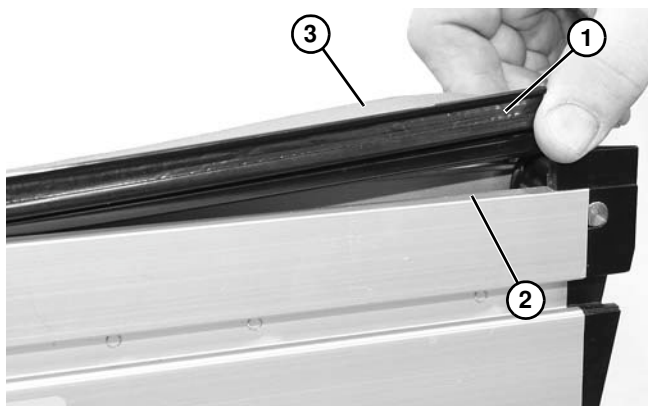

Figure 22
3. Remove the bedstrip (Figure 22, item 1) from between the conveyor (Figure 22, item 2) and belt (Figure 22, item 3).